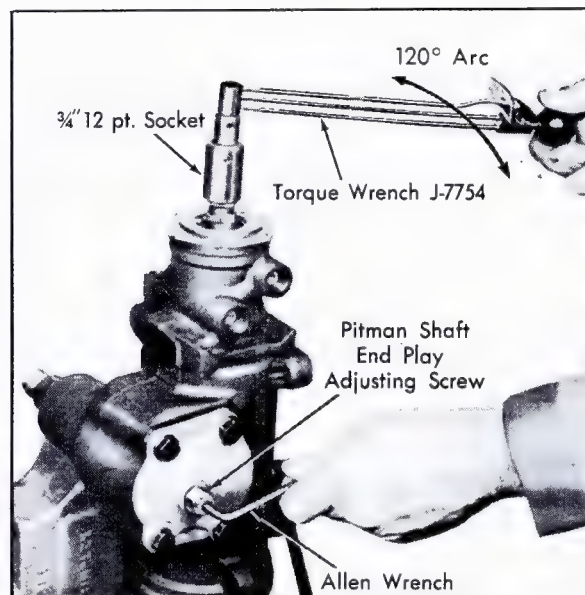

Fig. 9-36 Adjusting Pitman Shaft End Play
b. With gear on center, check combined ball and thrust bearing preload with Torque Wrench, J-7754, with a 3/4 inch 12-point socket, and note highest reading, Fig. 9-36.